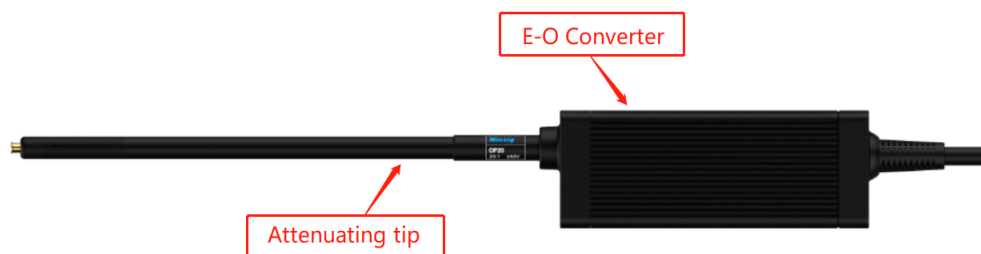

Figure. 2
3. Connect attenuating tip to the Electrical–Optical (E-O) converter (Figure 2);